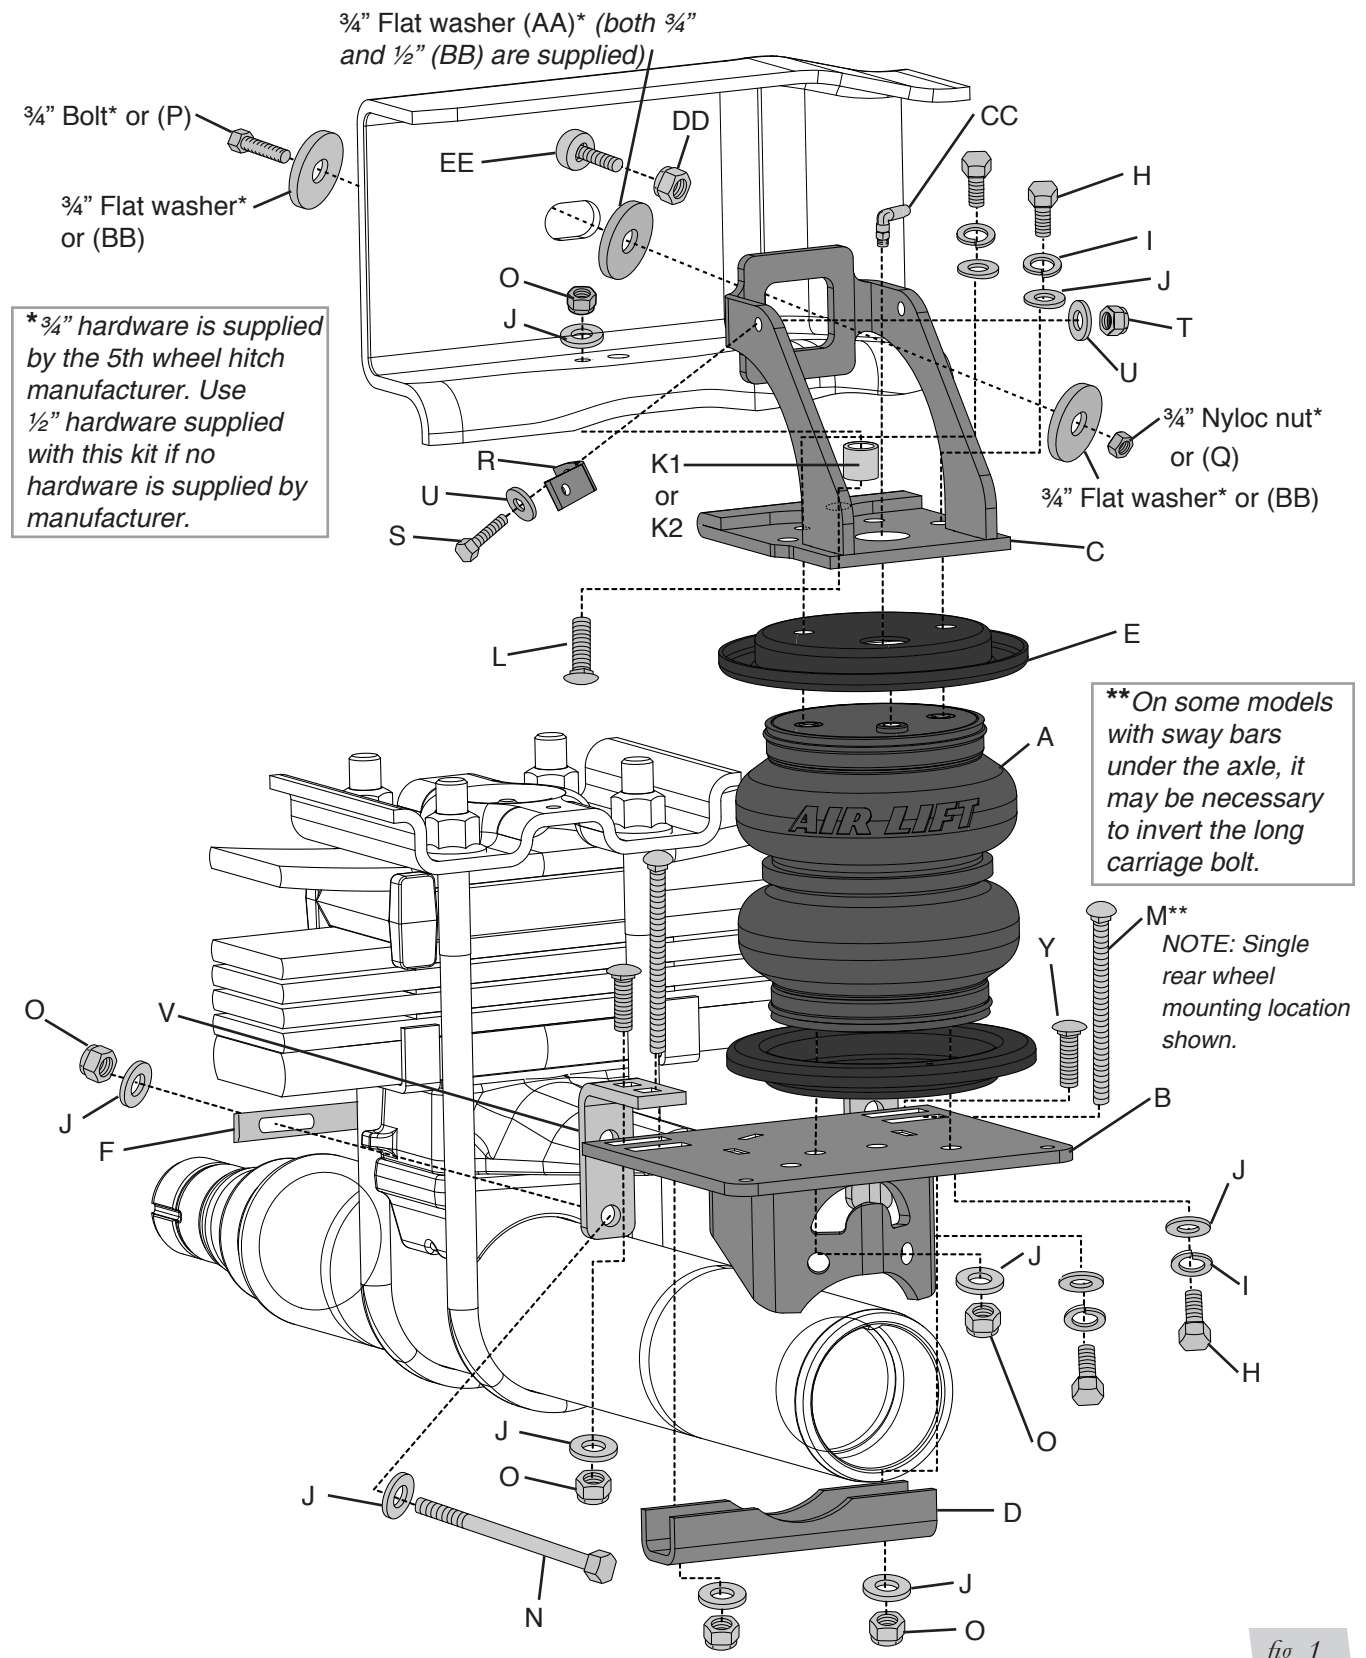

fig. 1
\*Not shown in figs. 1, or 2.
4. In order to obtain clearance between the upper bracket and the emergency brake cable bolt, on the inside of the frame, it will be necessary to remove the bolt and re-insert through the emergency brake cable bracket, from the outside of the frame in. Install the spacer (EE) on the bolt and cap with the new nut (DD) (fig. 1). Tighten hardware securely.
1. Set a roll plate over the top and bottom of the bellows (A) (fig. 1).
The radiused (rounded) edge of the roll plate (E) will be towards the bellows so that the bellows is seated inside both roll plates (fig. 1).
The insert for the fitting on top of the bellows points inward (refer to fig. 1 or fig. 2).